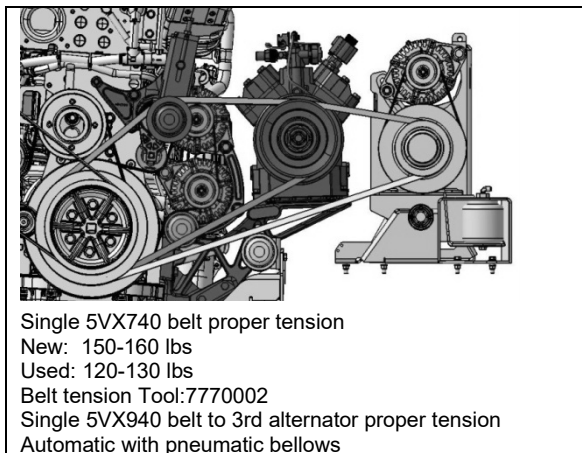
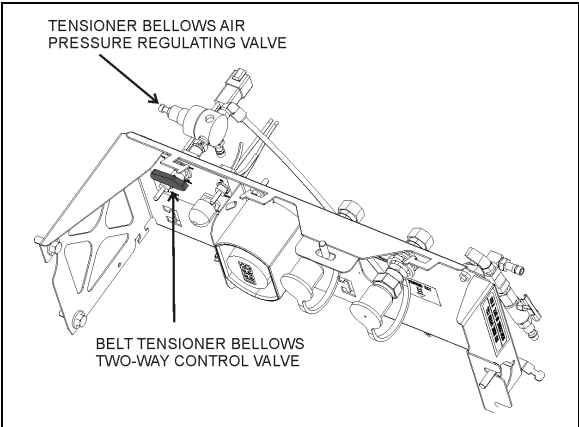

FIGURE 37: H3 SERIES BELT LAYOUT W/ 3RD ALT.
FIGURE 39: BELT TENSIONER CONTROL VALVE - H3 SERIES 12219
2. For vehicles equipped with a 3rd alternator, belt tensioning is also applied through air bellows (Figure 37). Turn the belt tensioner two-way control valve counterclockwise to release bellows pressure (Figure 39).
For H3 series vehicles equipped with a 3rd alternator, (Figure 37) belt tensioning is also applied through air bellows which is adjusted by an air pressure regulating valve pressure (Figure 39). The correct pressure of 45 psi is set at the factory. Periodically verify the pressure at the regulating valve using a pressure gauge and correct if required.
Belt tensioning is applied through air bellows which are adjusted by an air pressure regulating valve (Figure 39). The correct pressure of 45 psi is set at the factory. Periodically verify the pressure at the regulating valve using a pressure gauge and correct if necessary.